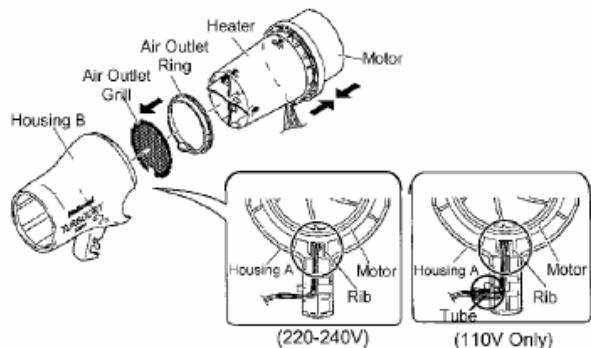

Fig. 1
1. Assemble the air outlet grill and the air outlet ring into the housing B as the following Fig.1.
2. Attach the air flow with the heater, and insert into the housing B as the following Fig.1.
Orange, blue, yellow, and brown lead wires insert into the rib as the following Fig.1.